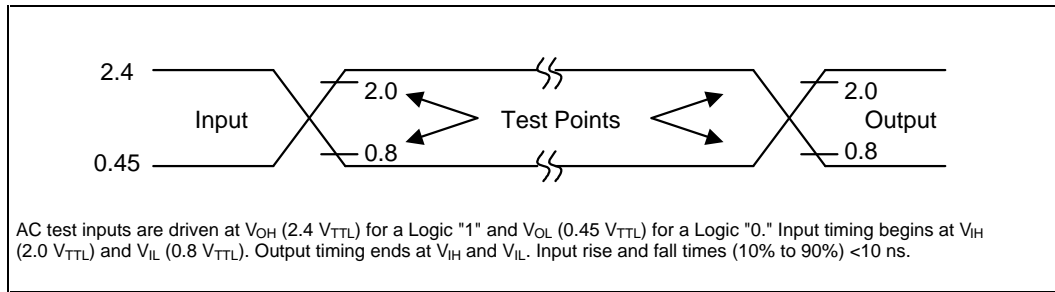

Figure 13. Transient Input/Output Reference Waveform for $V_{CCQ} = 5.0\text{ V} \pm 10\%$ (Standard Testing Configuration)
- See Figures 13–15, *Transient Input/Output Reference Waveform for V_{CCQ} = 5.0 V ± 10%*, *Transient Input/Output Reference Waveform for V_{CCQ} = 2.7 V – 3.6 V*, and *Transient Equivalent Testing Load Circuit* for testing characteristics.